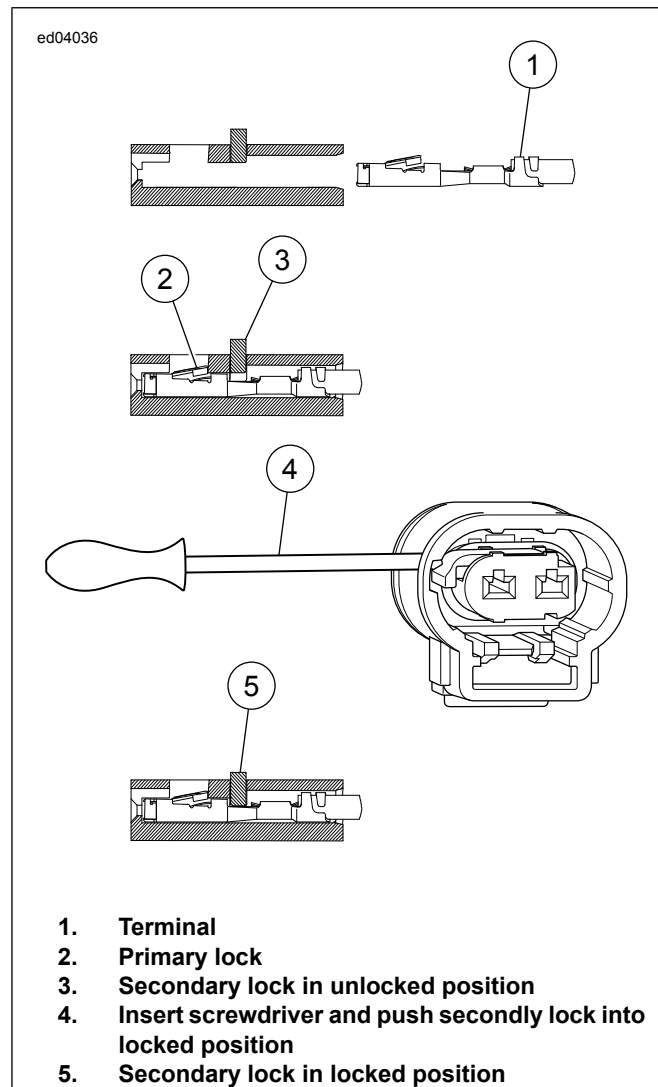

Figure B-26. Installing Terminal
1. See Figure B-26. Insert female terminals into receptacle connector until an audible click is heard or lock is felt